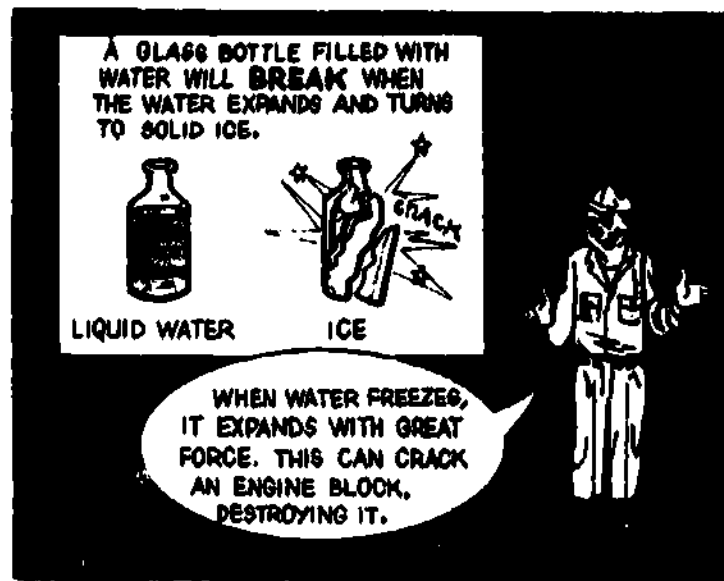

Fig 1-105. Water expands when frozen.
a. Antifreeze. All vehicles with a liquid-cooled system must be protected against freezing if temperatures of plus 32°F or less are common to that area. Water used alone as a coolant will freeze and expand, possibly cracking the block (fig 1-105).